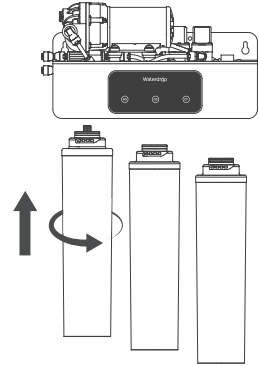

Figure 11
2. Take the filter corresponding to the position, insert it into the filter connector from bottom to top, and turn it counterclockwise to lock. **(Figure 11)**